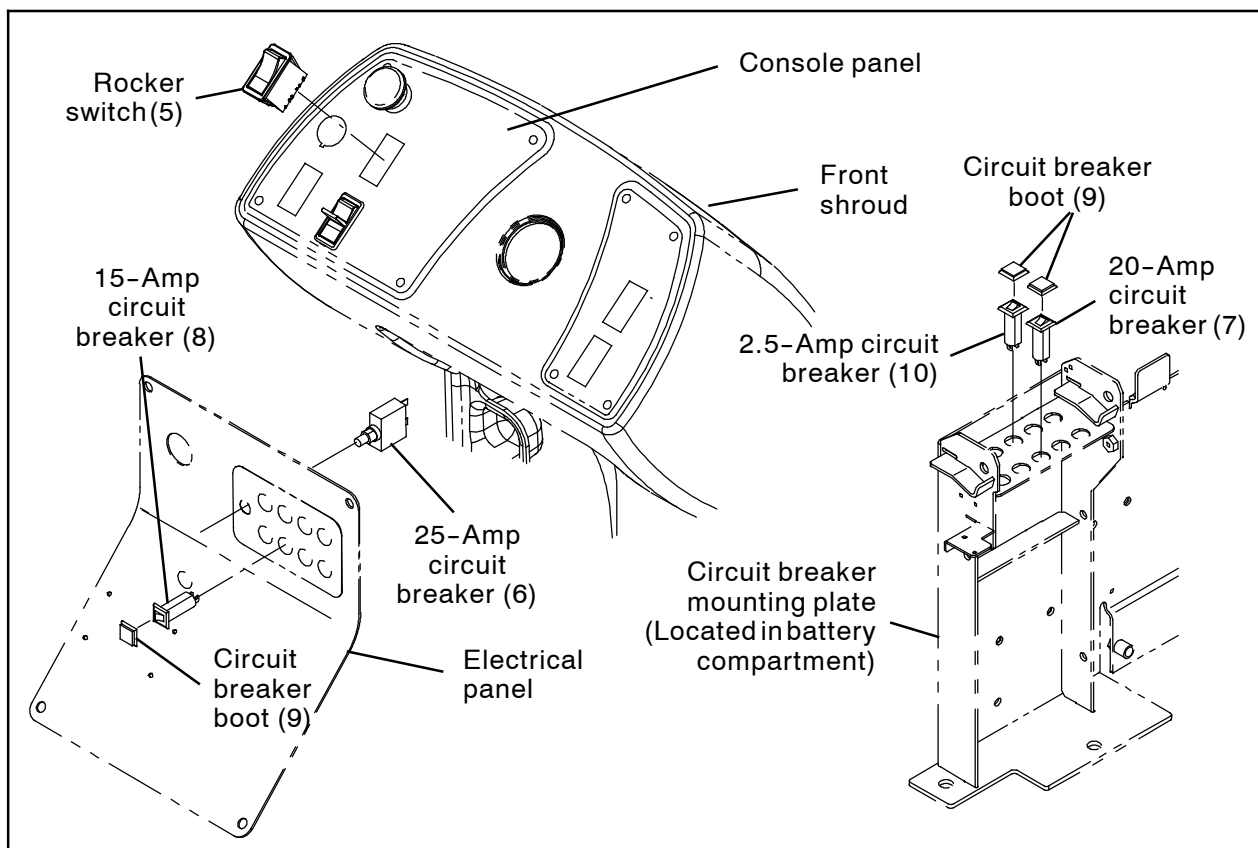
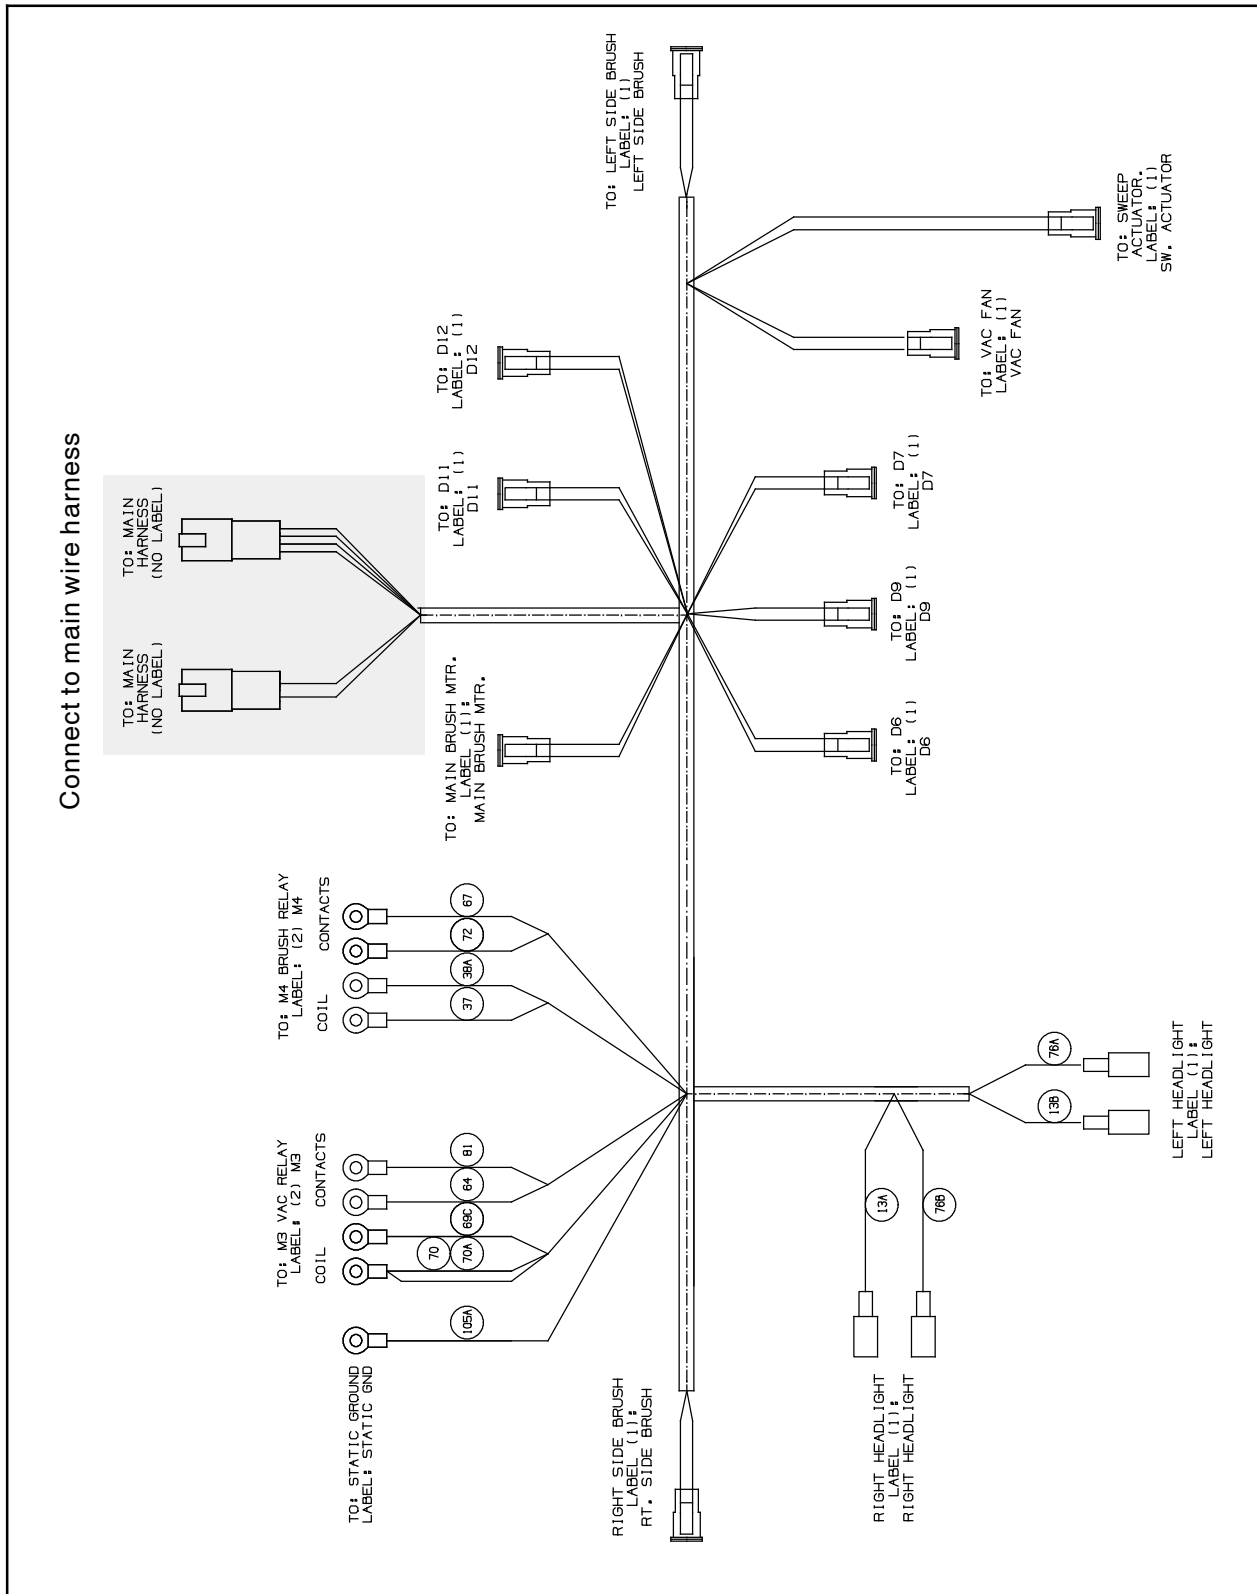
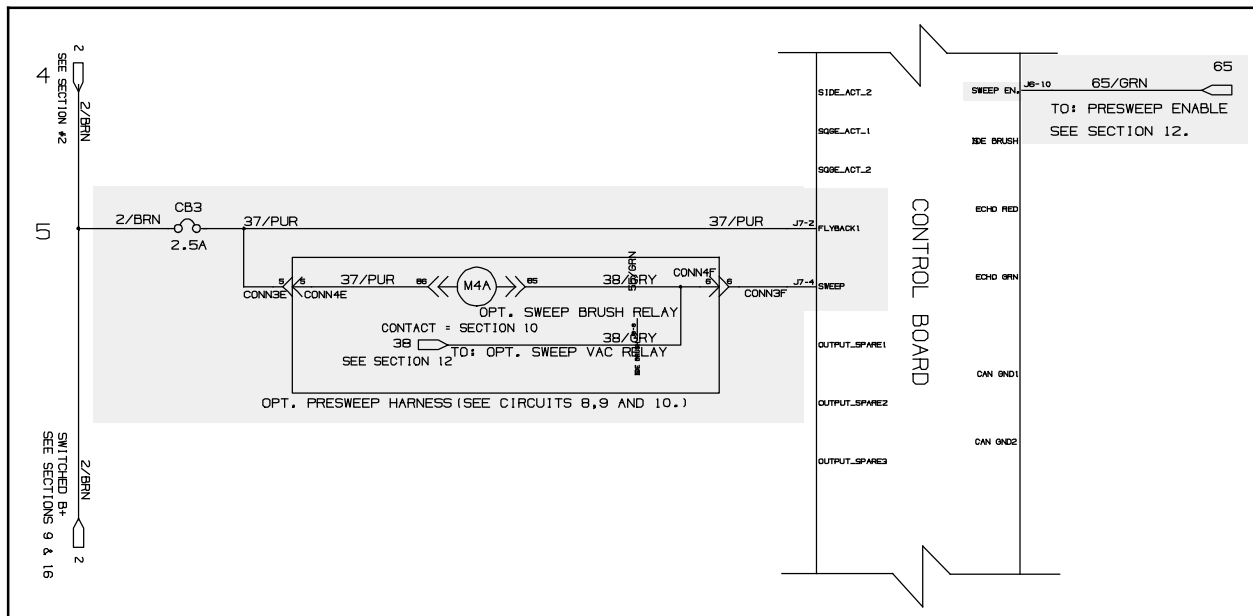

FIG. 2
FIG. 4
FIG. 6
9. Remove the hardware holding the console panel to the front shroud and carefully pull the console panel from the shroud. Do not break any wire / cable connections when pulling the console panel from the front shroud. Set the hardware aside. (Fig. 2)
10. Insert the rocker switch (5) into the console panel. (Fig. 2)
11. Connect the main harness to the rocker switch. (Fig. 2 / Fig. 3 / Fig. 5)
12. Reinstall the console panel onto the front shroud. (Fig. 2)
13. Remove the hardware holding the electrical panel to the steering channel weldment and carefully remove the electrical panel from the steering channel weldment. Do not break any wire / cable connections when pulling the electrical panel from the steering channel weldment. Set the hardware aside. (Fig. 2)
14. Install the 25-Amp circuit breaker (6) onto the electrical panel (CB 19). (Fig. 2)
15. Insert the 15-Amp circuit breaker (8) into the electrical panel (CB 16). (Fig. 2)
16. Install a circuit breaker boot (9) onto the 15-Amp circuit breaker (8) installed in the electrical plate. (Fig. 2)
17. Connect the main harness to the 25-Amp circuit breaker (6) and 15-Amp circuit breaker (8). (Fig. 2 / Fig. 3 / Fig. 4 / Fig. 5)
18. Reinstall the electrical panel onto the steering channel weldment. (Fig. 2)
19. Insert the 20-Amp circuit breaker (7) into (CB 8) and the 2.5-Amp circuit breaker (10) into (CB 3) in the circuit breaker mounting plate located in the battery compartment. (Fig. 2)
20. Install a circuit breaker boot (9) onto the 20-Amp circuit breaker (7) and 2.5-Amp circuit breaker (10) installed in the circuit breaker mounting plate. (Fig. 2)
21. Connect the main harness to the 20-Amp circuit breaker (7) and the 2.5-Amp circuit breaker (10) installed in the circuit breaker mounting plate. (Fig. 2 / Fig. 5 / Fig. 6)